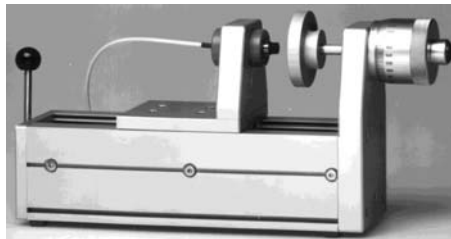

Fig. 5.3: Micrometer calibration device
- 1) Special micrometer calibration device with non rotating micrometer spindle (fig. 5.3, available as an accessory!) or